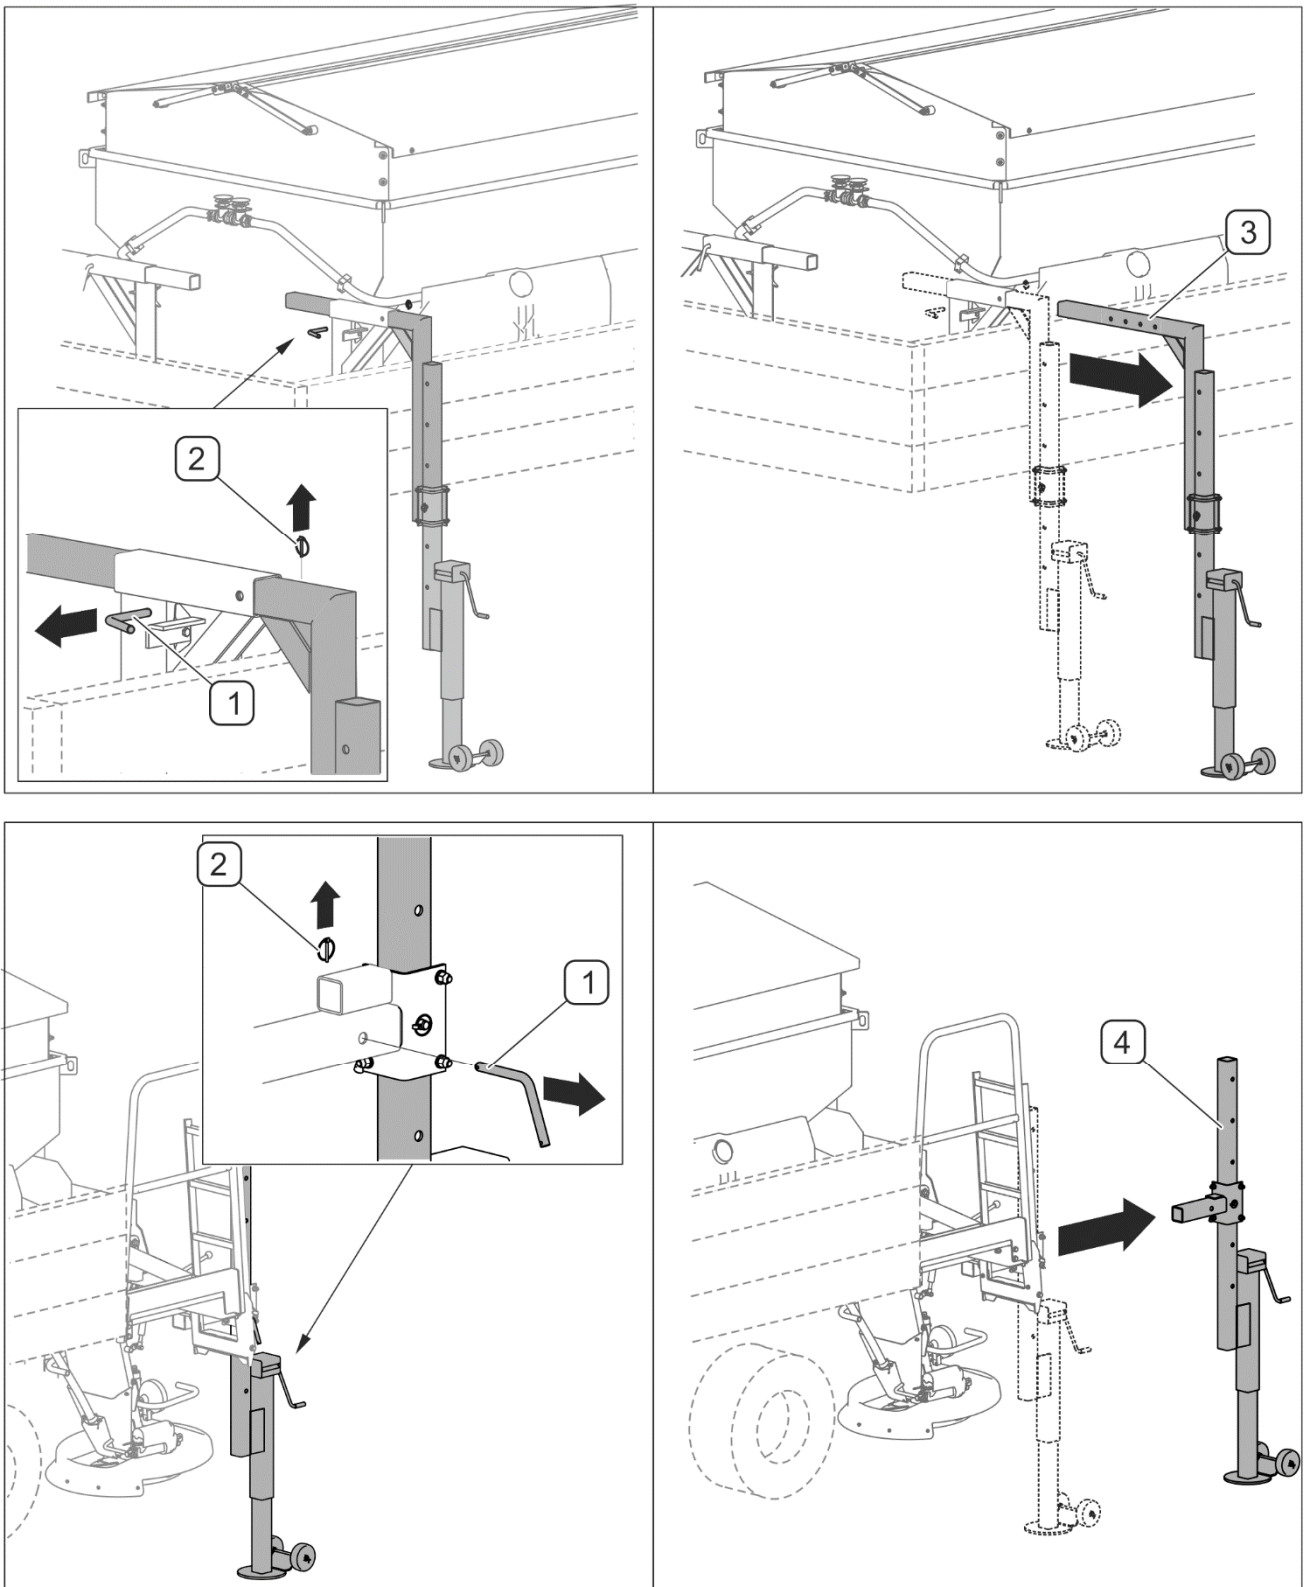

FIGURE 4.7 Dismantling the parking stands
- When the machine is fully supported on the load platform, remove linchpins (2) and pins (1) that secure stands in guides (FIGURE 4.7).
- Dismantle front stands (3) and rear stands (4) and keep them for further use.